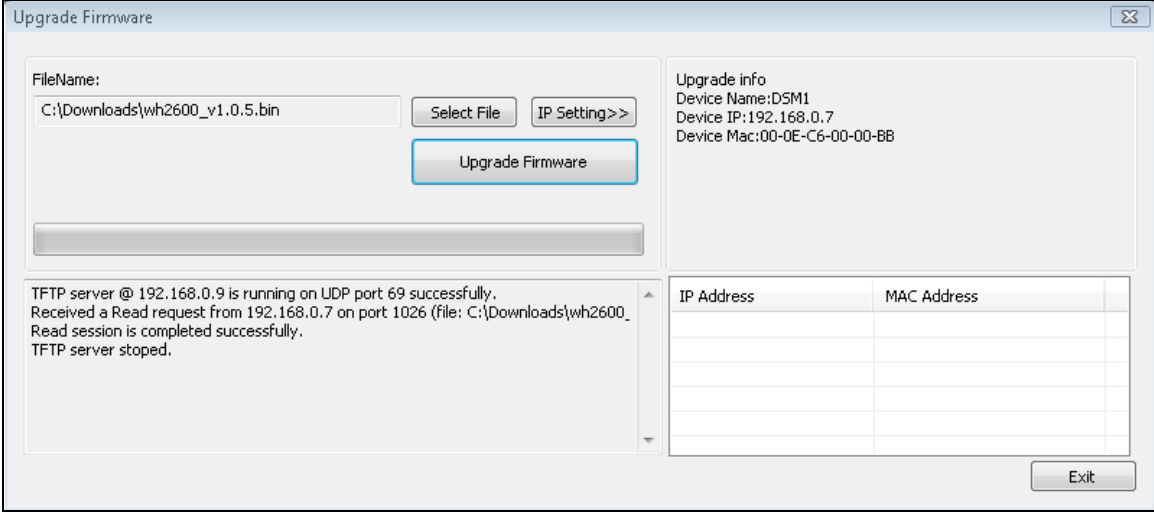

Figure 34
6. Once the firmware upgrade is complete, the dialog box will display **Read session is completed successfully**, as shown in Figure 34.